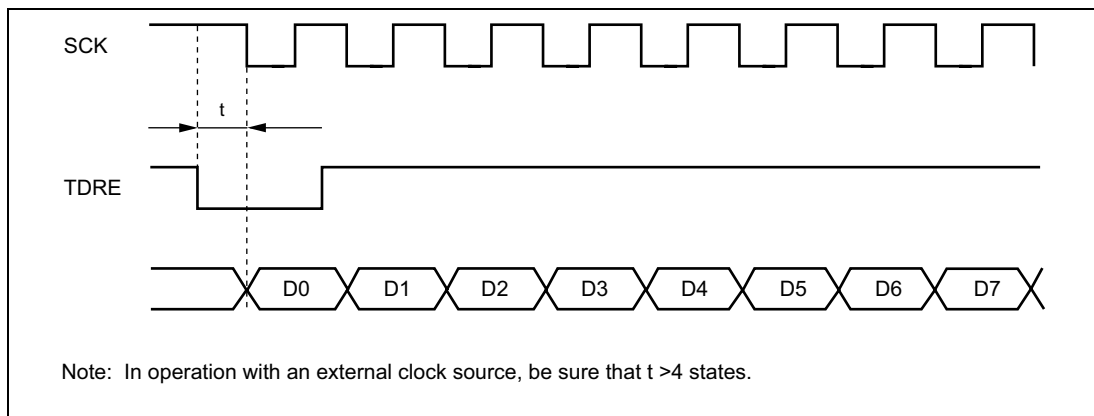

Figure 13.22 Example of Synchronous Transmission Using DMAC
- When an external clock source is used for the serial clock, after the DMAC updates TDR, allow an inversion of at least five system clock (ϕ) cycles before input of the serial clock to start transmitting. If the serial clock is input within four states of the TDR update, a malfunction may occur. (See figure 13.22.)